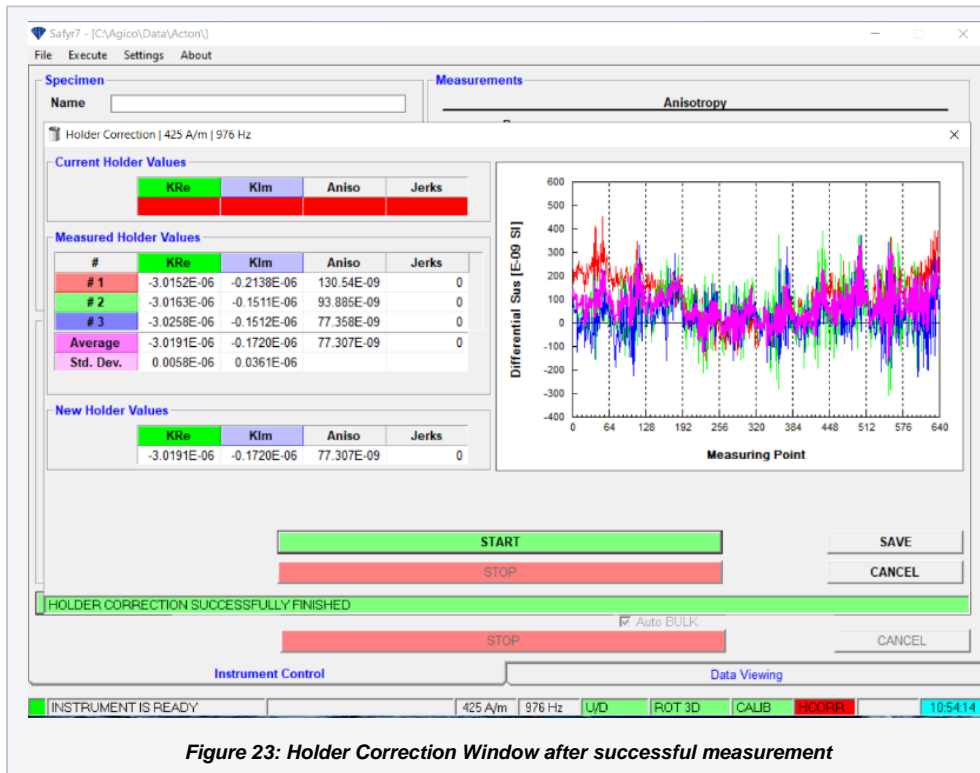
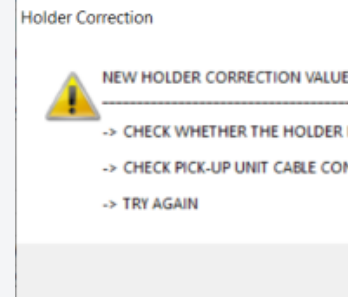

Figure 23: Holder Correction Window after successful measurement
Figure 24: Suspicious Holder Correction warning window
10. If successful (*Figure 23*), select **SAVE**. If the holder values are suspicious a window will appear to warn the user (*Figure 24*). Holder correction should be repeated until it is successful. However, the ship environment/noise always creates suspicious values for the holder correction. It is at the user's discretion to accept or not the holder correction values.